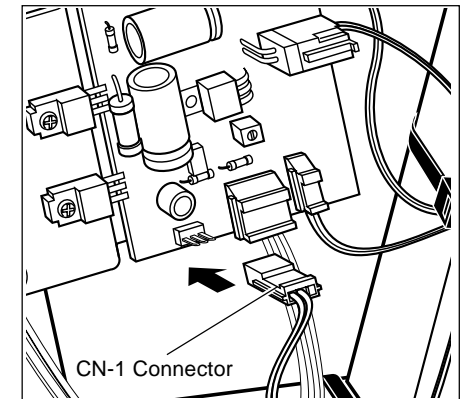

Fig. 4
1. Remove the connector CN-1 from the power supply board, and measure the resistance across Terminals 2 and 3 of the connector. When the reading is in the range of 9Ω and 14Ω, the connector is all right. (Figs. 4 & 5)